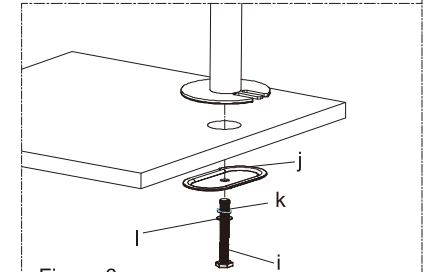

Figure 6
3. Position the Pole(a) on the mounting surface and secure using the Support Plate(j), M10 Washer(k), Spring Washer(l) and M10 Bolt(i), Fasten the M10 Bolt using the provided Wrench(p), see Figure 6.